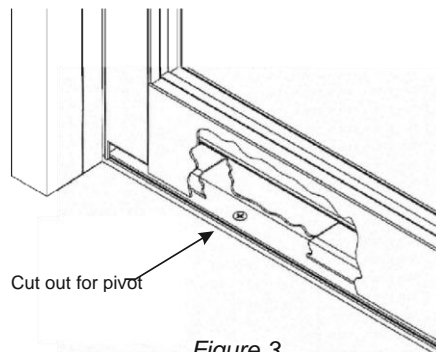

Figure 3
1. Secure the sidelite J-mould track to the floor or threshold, being sure it is tight to the jamb, plumb, square and level (*Figure 3*).
1. Slide the lower pivot wheels into the 2" x 2" cut out on the bottom of the fixed sidelite panel (see *Figure 3*).